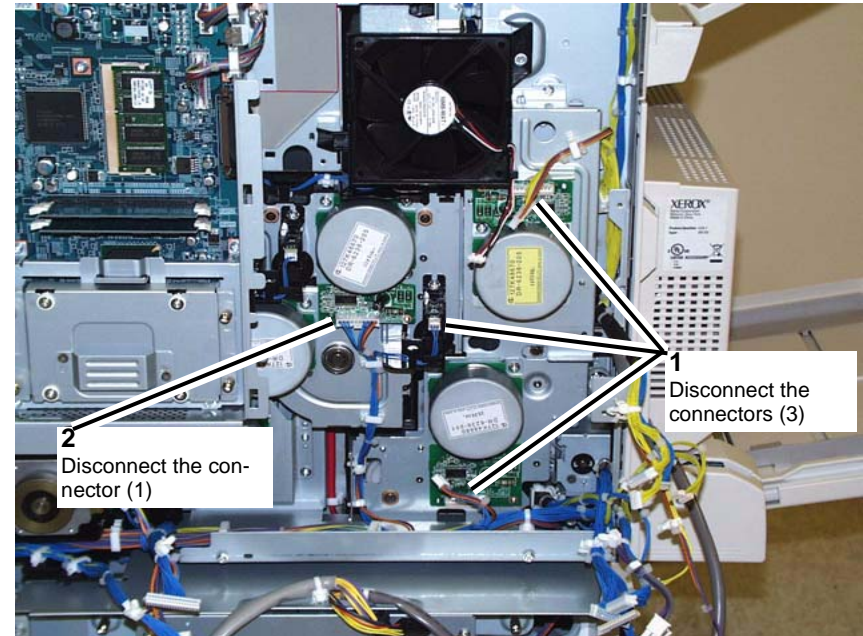

Figure 2 Disconnecting the connectors (4)
5. Disconnect the connectors on the Main Drive Assembly and the Drum Drive Assembly. (Figure 2)